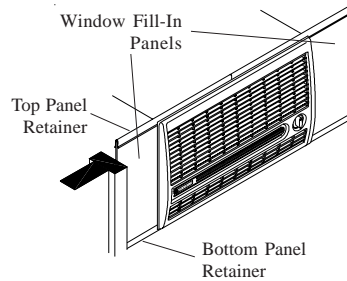

Fig. 4
• **Install window panel retainers.** Place two panel retainer strips onto bottom of neck flange and position to the width of the window. Cut the strips to fit if necessary. These strips hold the window fill-in panels (Fig. 4).